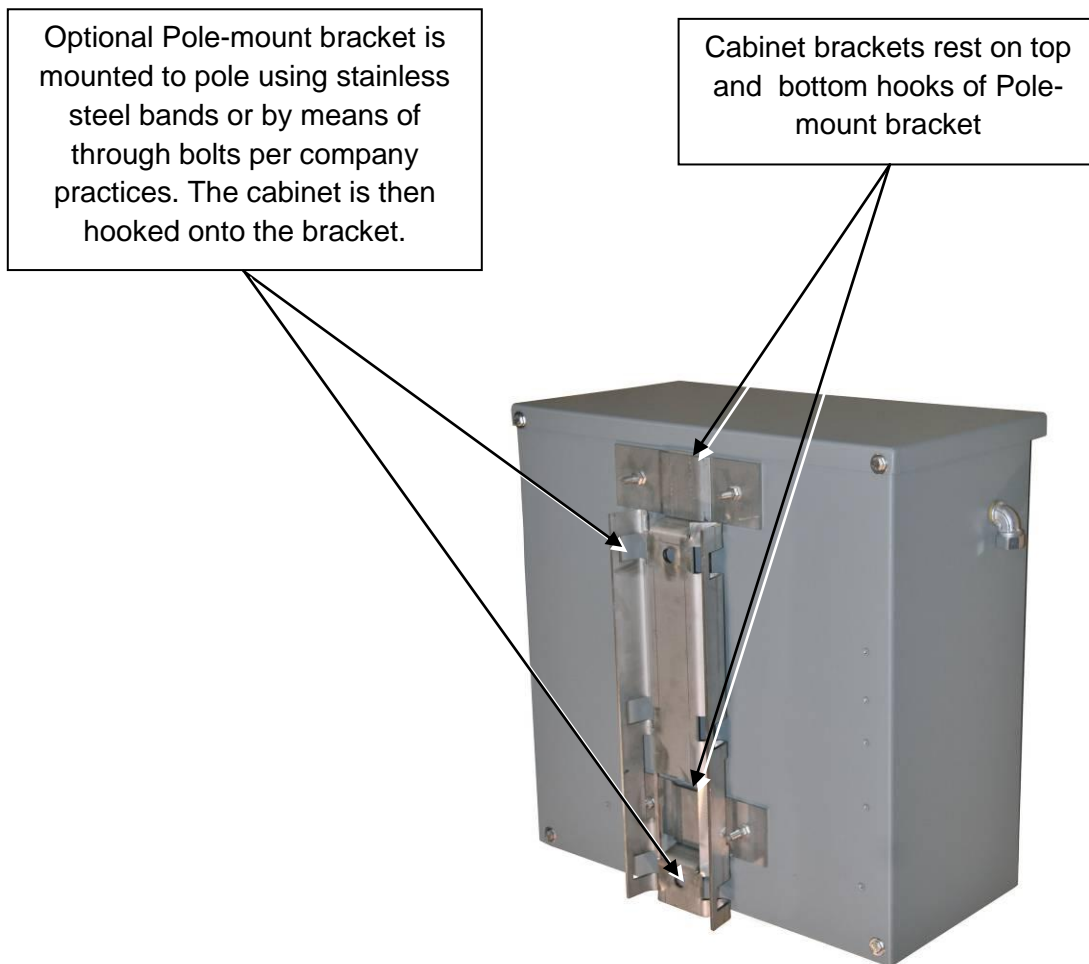

Figure 11: Mounting of Outdoor XUPS to a Pole
- Fasten the pole-mount bracket to the pole by means of through bolts or stainless steel banding of size and type to be determined by local practices (see Figure 11).
- Slide the unit onto the pole-mount bracket as shown in Figure 11.